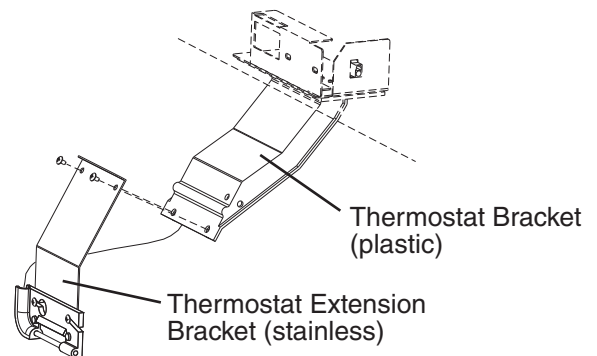

Fig. 8
- h. Remove the 2 screws from the lower part of the thermostat bracket (plastic) and use them to attach the thermostat extension bracket (stainless) to the thermostat bracket (plastic). See Fig. 8.